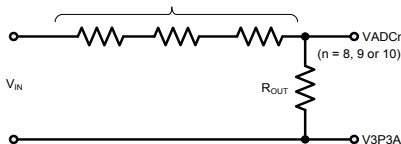
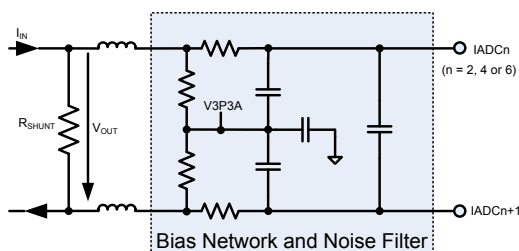
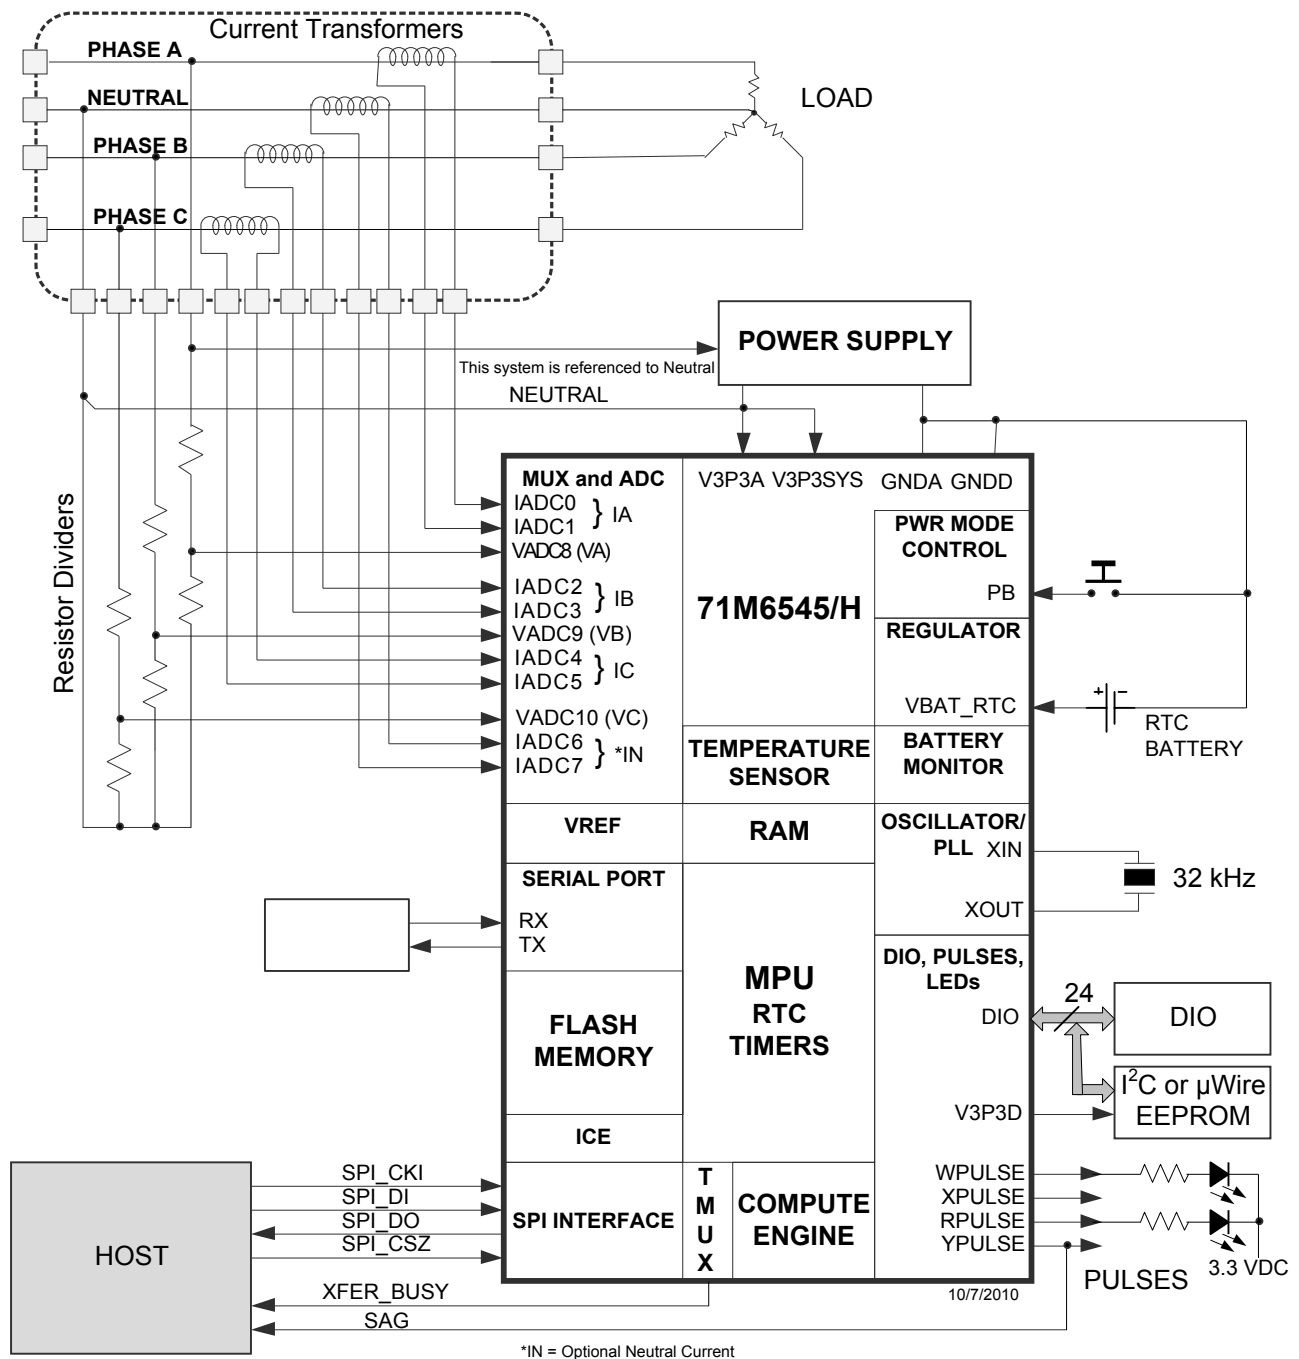

Figure 23: Resistive Voltage Divider (Voltage Sensing)
Figure 26: Differential Resistive Shunt Connections (Current Sensing)
Figure 28. System Using Current Transformers
Figure 23 through Figure 26 show voltage-sensing resistive dividers, current-sensing current transformers (CTs) and current-sensing resistive shunts and how they are connected to the voltage and current inputs of the 71M6545/H. All input signals to the 71M6545/H sensor inputs are voltage signals providing a scaled representation of either a sensed voltage or current.
Figure 28 shows a poly-phase system using four current transformers to support optional Neutral current sensing for anti-tamper purposes. The Neutral current sensing CT can be omitted if Neutral current sensing is not required. The system is referenced to Neutral (i.e., the Neutral rail is tied to V3P3A and V3P3SYS).
for the voltage sensors (see Figure 23) determine the behavior of the voltage division ratio with respect to temperature. It is recommended to use resistors with low temperature coefficients, while forming the entire voltage divider using resistors belonging to the same technology family, in order to minimize the temperature dependency of the voltage division ratio. The resistors must also have suitable voltage ratings.
This section discusses metrology temperature compensation for meter designs where Current Transformer (CT) sensors are used, as shown in Figure 28.
Referring to Figure 28, the VADC8 (VA), VADC9 (VB) and VADC10 (VC) voltage sensors are directly connected to the 71M6545/H. Thus, the precision of the voltage sensors is primarily affected by VREF in the 71M6545/H. The temperature coefficient of the resistors used to implement the voltage dividers for the voltage sensors (see Figure 23) determine the behavior of the voltage division ratio with respect to temperature. It is recommended to use resistors with low temperature coefficients, while forming the entire voltage divider using resistors belonging to the same technology family, in order to minimize the temperature dependency of the voltage division ratio. The resistors must also have suitable voltage ratings.
**Table 58: *GAIN\_ADJx* Compensation Channels (Figure 3, Figure 28, Table 2)**